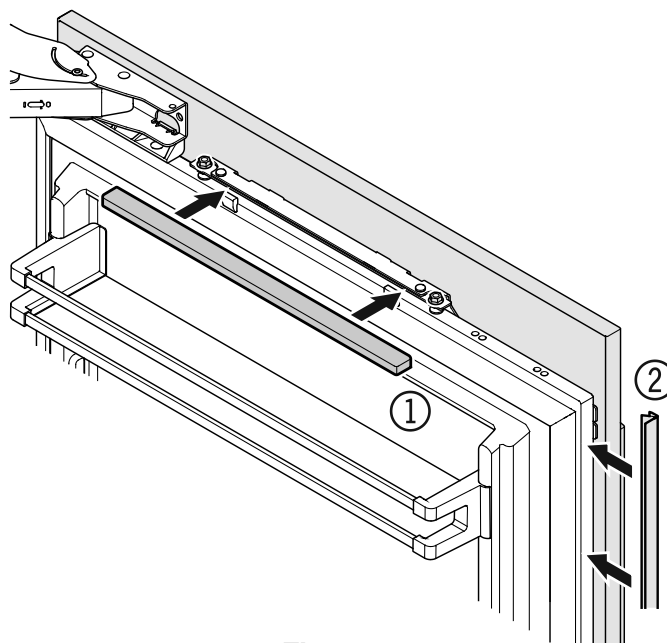

Figure 37
11. Click cover (1) into place. Insert the cover strip provided (2) between refrigerator door and panel (**Figure 37**).